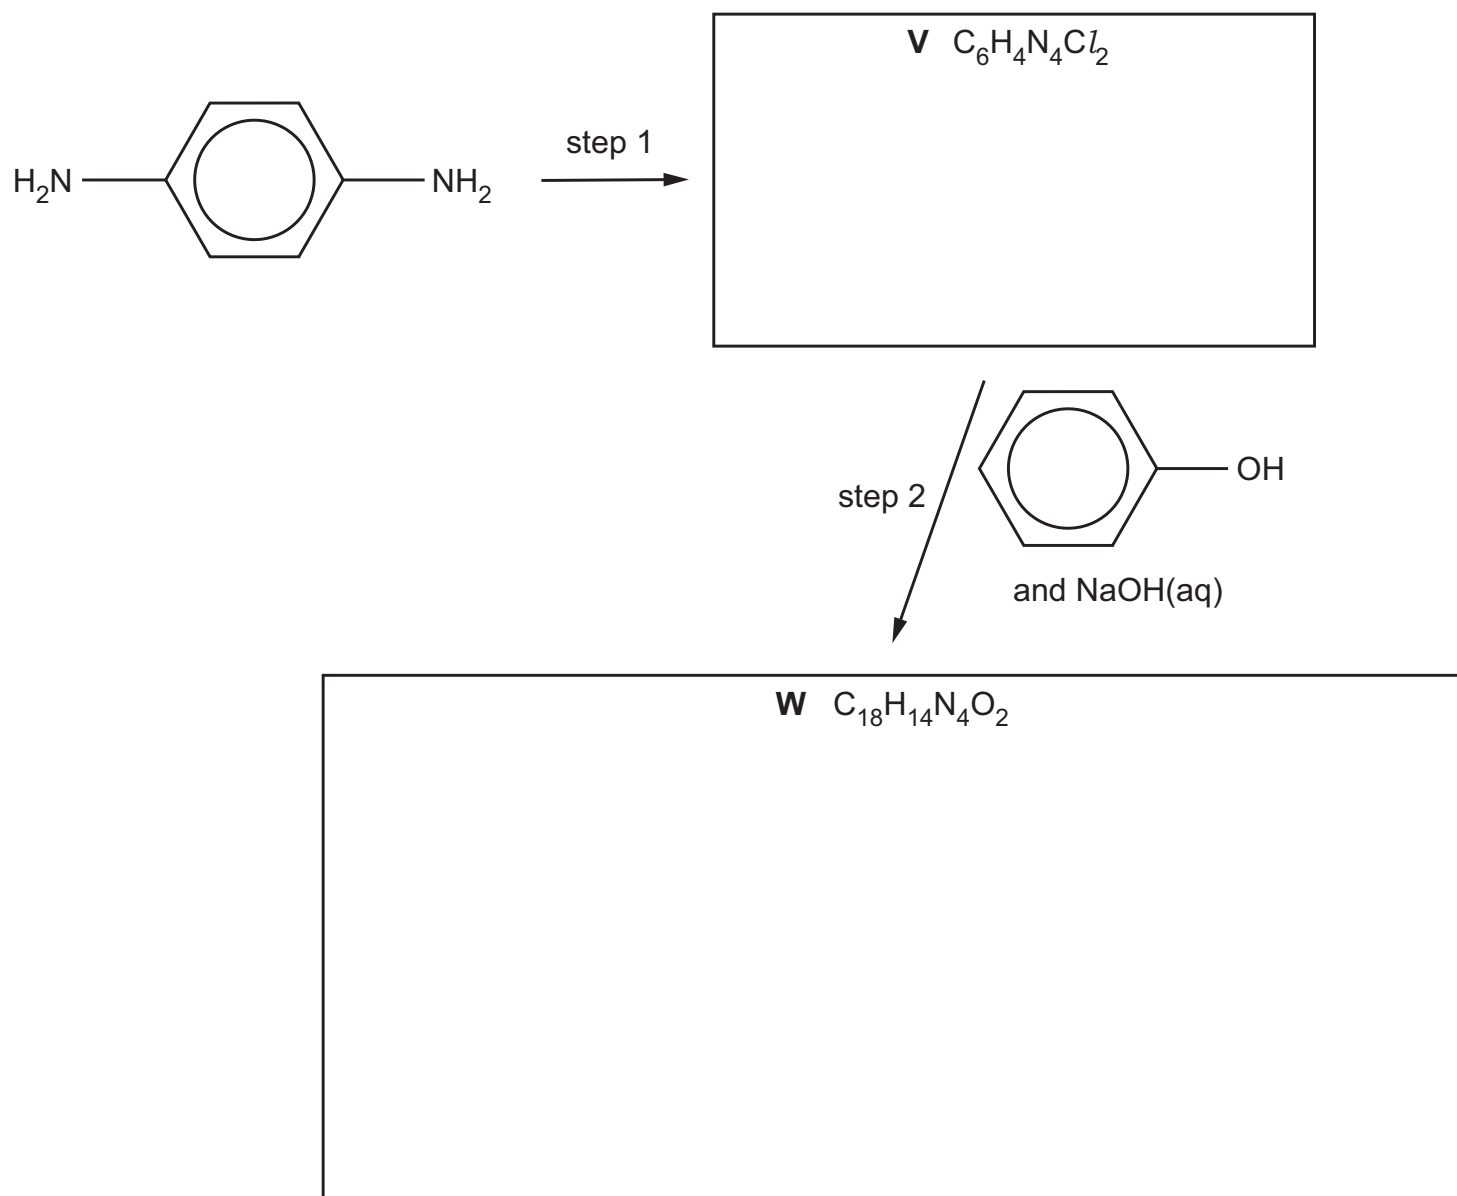

Fig. 7.2
(d) Fig. 7.2 shows the two-step synthesis of the azo compound **W**.
- (i) Suggest structures for compounds **V** and **W** and draw them in the boxes in Fig. 7.2. [2]